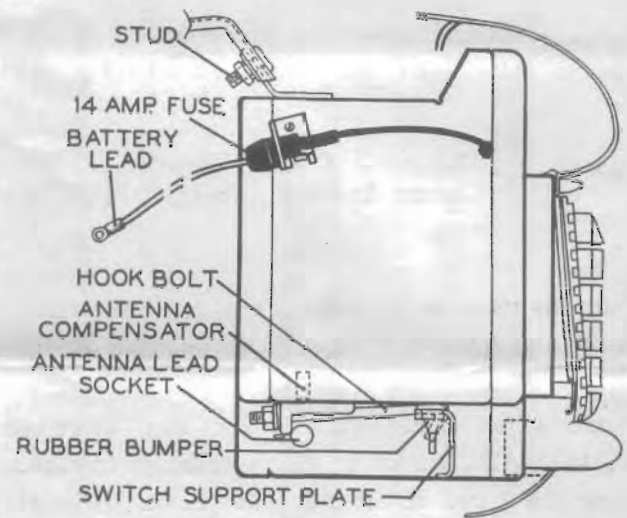

Figure 2
8. Plug the antenna lead into the socket shown in figure 2.
9. Turn the radio on and allow it to warm up. With the antenna fully extended, tune in a weak station near 1400 kc., and adjust the antenna compensator for maximum volume. (See figure 2.)